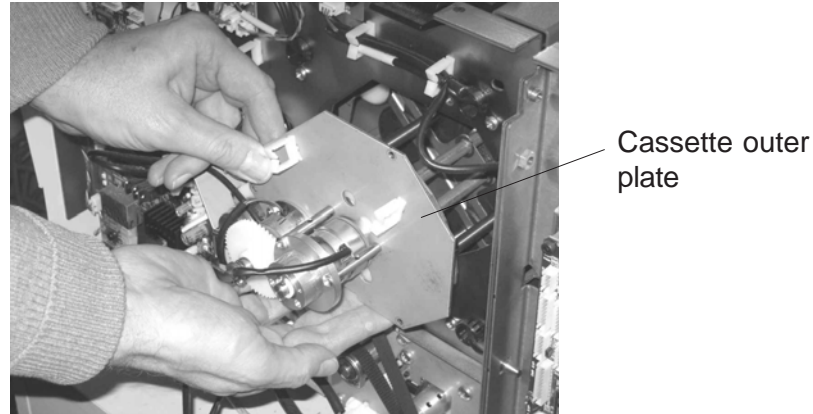

Fig. 3.4
6. Referring to Fig. 3.4 below, take out the 3 screws securing the cassette outer plate on the RH chassis side. Withdraw the cassette, rotating as required to work the skis through the cutout. Ensure the cassette is withdrawn in a straight line so that the stub shaft on the LH side will slide through the bearing.